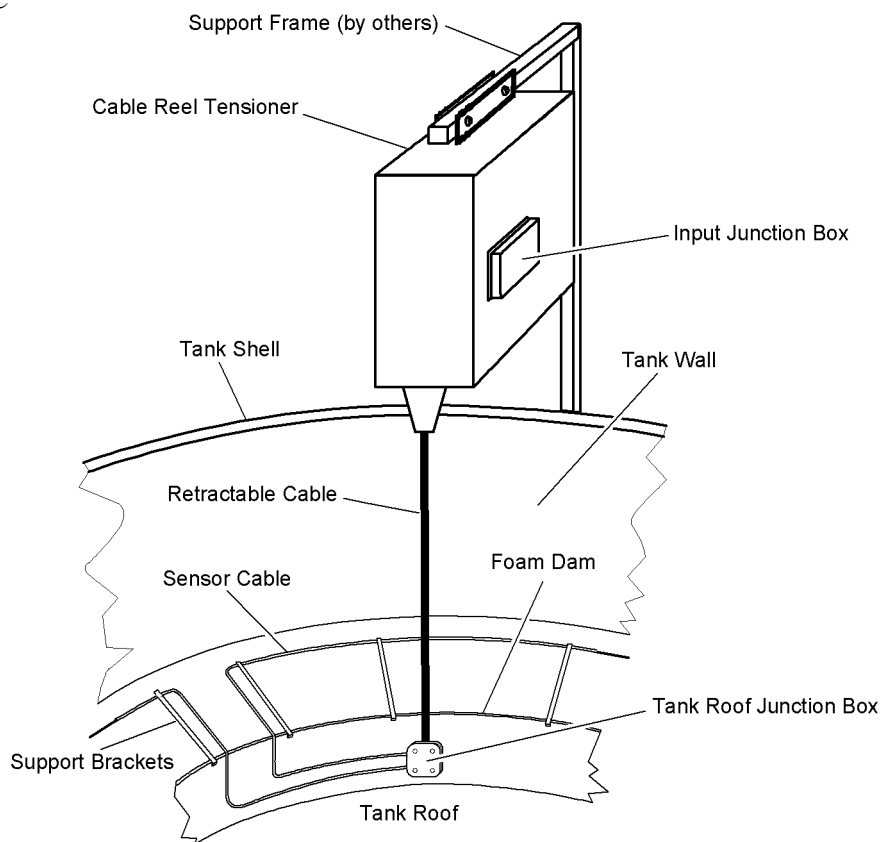

Fig. 3-7
- Automatic Cable Reeler Part Number 1-53836-K241 (Fig 3-7)